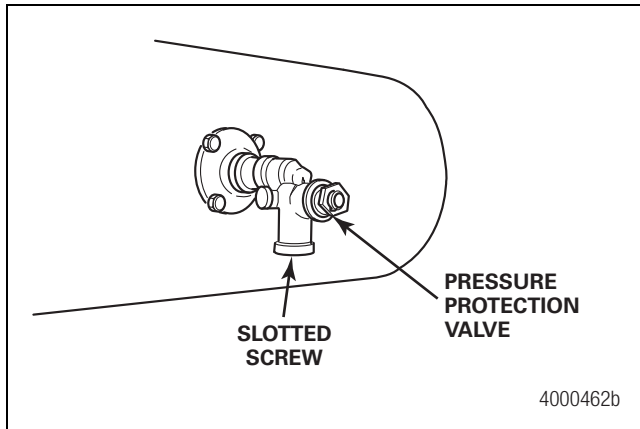

Figure 2.58
- Hand-tighten the PPV into the installation nipple. Use a wrench to tighten the PPV approximately two additional turns to obtain an airtight seal. When correctly installed, the slotted screw in the PPV should face DOWN. Figure 2.58.